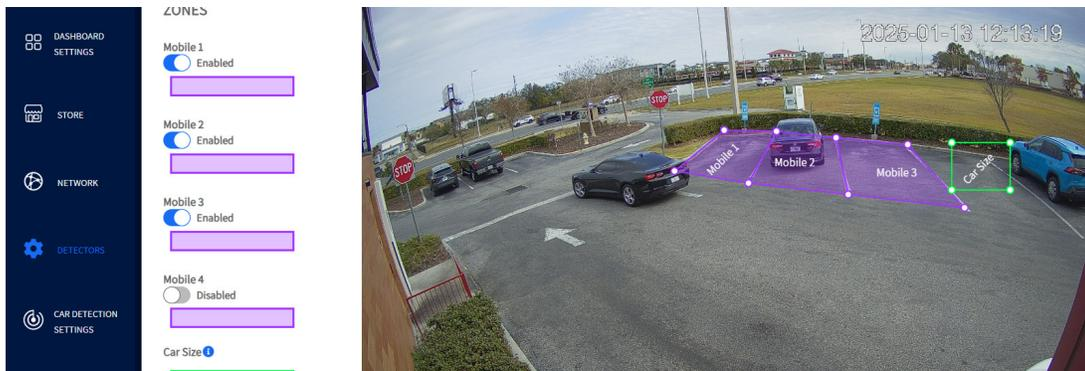

Fig. 26
- The Car Size box (in green) is used as a measurement tool to approximate the size of a car. Any average-sized car (e.g., a sedan) close to the mobile spaces can be used. Place the box over a car and adjust the box using the corner anchor points to match the car size. If no cars are present a mobile space can be used to approximate the size of a car (the installer can also use their car if it is an average-sized vehicle). If you sized the car using a Mobile space, move the Car Size box out of the Mobile space drawing before saving. See Fig. 26.